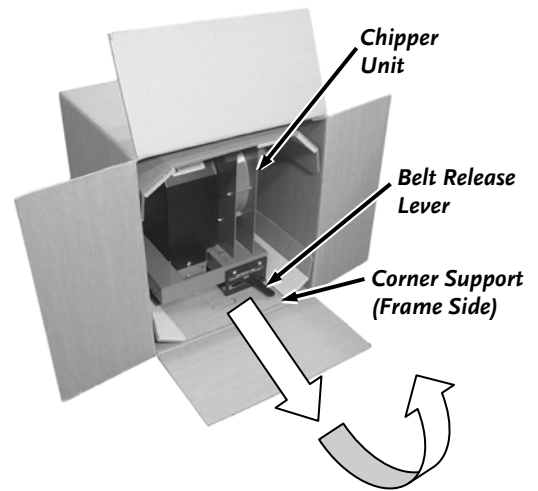

Figure 4
5. Slide the Box off the Pallet and rotate it onto the side so the Chipper Unit is right side up (**Figure 4**).